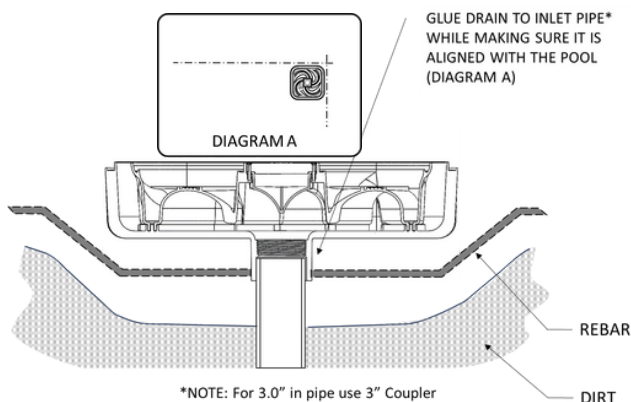

Figure 8
- b. Place the Drain (Use Schedule 40 PVC):** Dry fit the pipe and the drain together in place. Ensure the drain is level and sits flush with the pool floor to avoid creating any tripping hazards. (See Figure 8). Cut down riser further if needed.